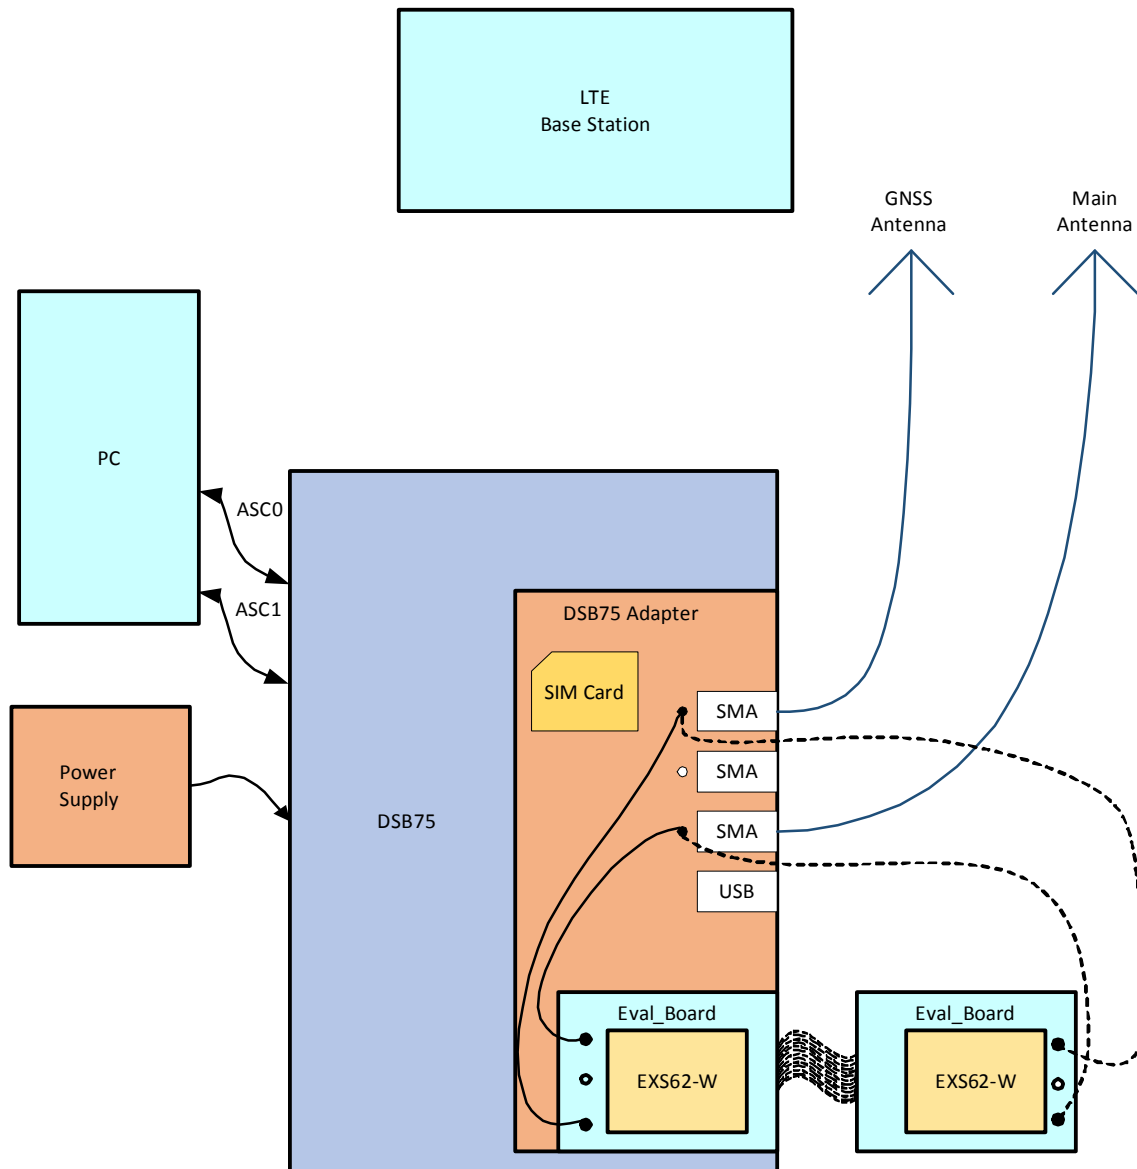

Figure 16: Reference equipment for type approval
1. For RF performance tests a mini-SMT/U.FL to SMA adapter with attached 6dB coaxial attenuator is chosen to connect the evaluation module directly to the GSM/GNSS test equipment instead of employing the SMA antenna connectors on the EXS62-W-DSB75 adapter as shown in Figure 16. The following products are recommended: